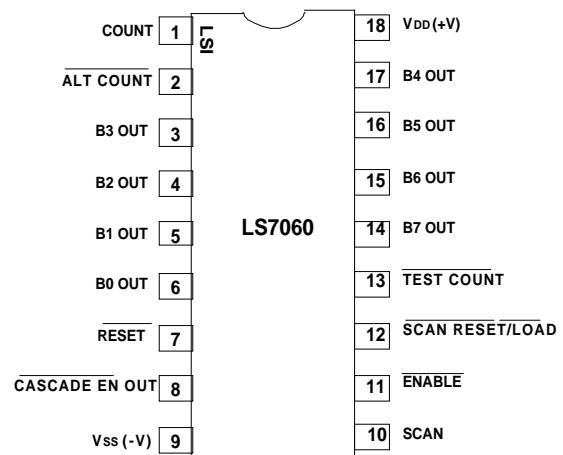

FIGURE 1
- 18 Pin DIP or 18 Pin SOIC - See Figures 1 & 2